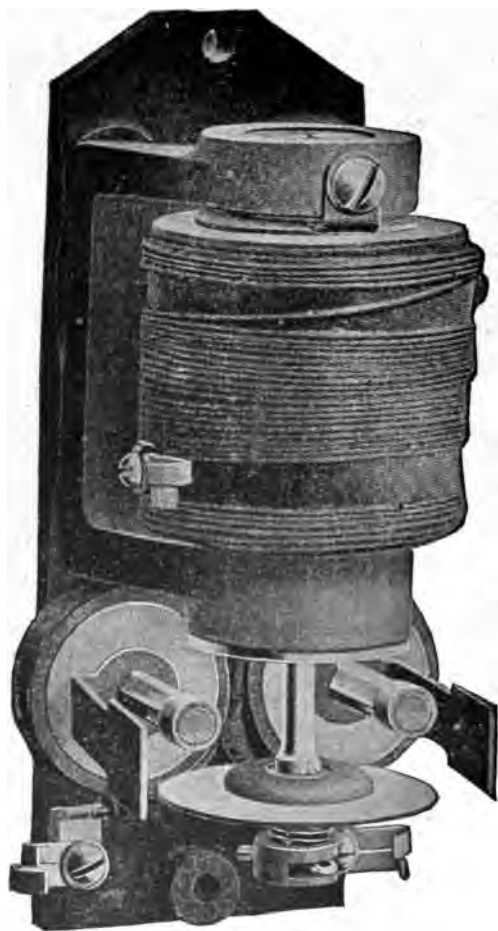

Fig. 499. Potential Relay.
37. THE POTENTIAL RELAY (Fig. 499) is mounted in the contactor box. It is similar to the current relay in construction, but is used for a different purpose. The relay has a coil which is connected between a point in the motor circuit, ahead of the first motor, and ground. If for any reason the motor current is interrupted on a car, this relay will open the master control circuit to the contactors on that car, causing them, in turn, to open. When current is restored to the car, the relay will again pick up and complete the master control circuit. The contactors will then pick up in regular succession, the same as if the motorman had shut off power and immediately turned the master controller handle on again.